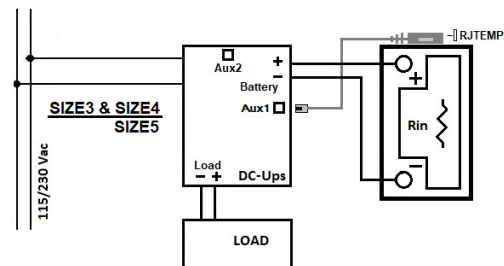

Fig.6
- Battery Sense connection NO; for the device Size3 and device Size4 (Fig.6)